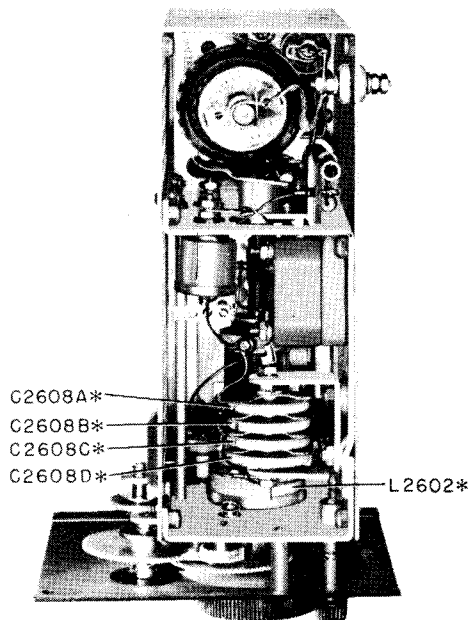

Figure 5-4A. Type O-17/ART-13A Low Frequency Oscillator
b. TYPE 0-17/ART-13A LF OSCILLATOR ALIGNMENT. (Refer to figure 5-4A.)
(1) If for any reason this oscillator shall require realignment, the following procedure shall be used:
(o) While listening to sidetone output, adjust trimmer condenser C2608A* (see figure 5-4A. and note that trimmer can be reached through slot in shield cover of LFO unit), until zero beat is obtained with the output of the calibration oscillator in the CFI unit. These trimmer condensers are adjusted by changing the position of the small "pronged" metal lip that projects out from the side of the rounded edge of the capacitor. Using an insulated tool, merely push the lip to change the capacity of the condenser.
(r) While listening to sidetone output (in head phones), adjust capacitor C2608B* (see figure 5-4A) until "zero beat" is obtained between output of low frequency oscillator and calibration oscillator in CFI unit.
(u) Listen to sidetone output and obtain "zero beat" by adjusting either or both trimmer capacitors C2608C* and C2608D* (see figure 5-4A).